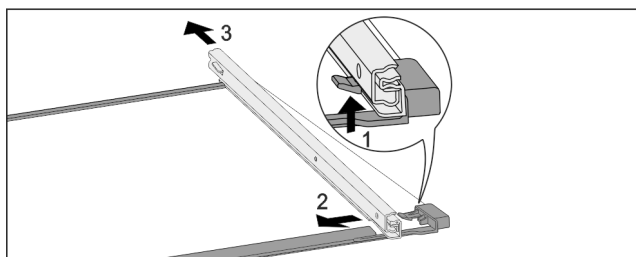

Fig. 122 Glass shelf with rails
- ▶ Push up front click-in hooks. Fig. 122 (1)
- ▶ Move the pull-out rails to the side Fig. 122 (2) and to the rear Fig. 122 (3).